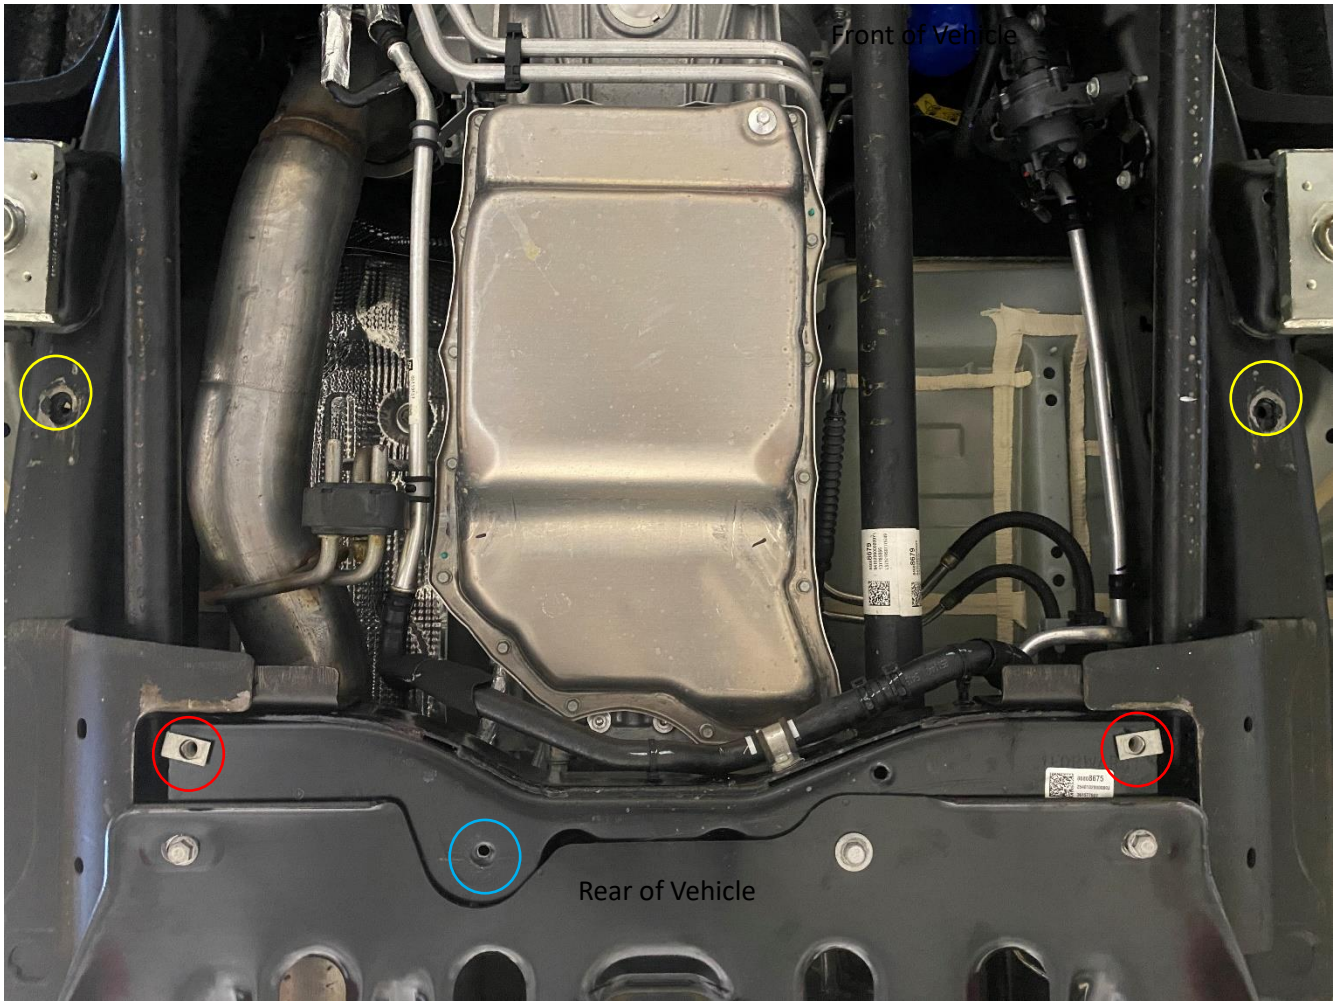

Figure 3
- A. Please reference Figure 3 for marking areas for drilling if the truck does not have frame mounting locations.